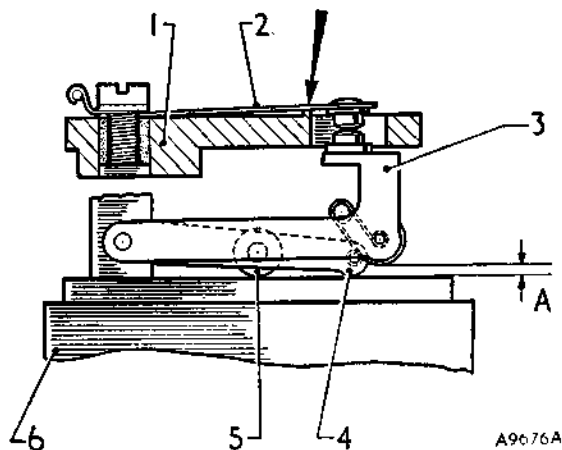

Fig. D.6
35. Check the gap between the points indirectly by carefully holding the contact blade against the rib on the pedestal, without pressing against the tip (Fig. D.6), then check if a $.030$ in. (.8 mm.) feeler will pass between the fibre rollers and the face of the coil housing. If necessary, the tip of the blade can be set to correct the gap.